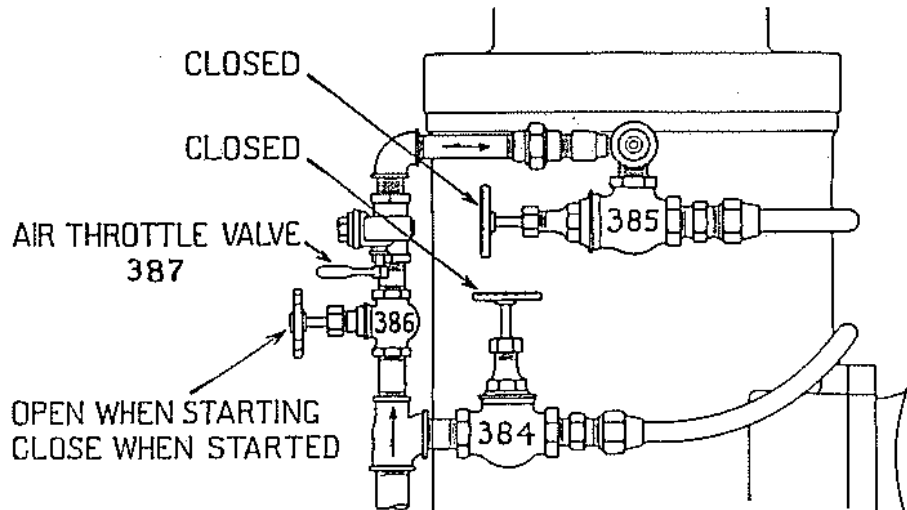

Fig. 1—Valves Set for Emergency Air Starting System.
4. Open air valve 386 shown on Fig. 1 above.
5. Give air throttle valve 387, shown on Fig. 1, page 12 a quick pull.
45—Emergency Starting System—At any time if necessary, all three and four cylinder engines (also two cylinder engines equipped with air distributor) may be started without using the air distributor by following the method used in starting two cylinder engines not having air distributors. See paragraph 38, page 12 and Fig. 1, page 12.